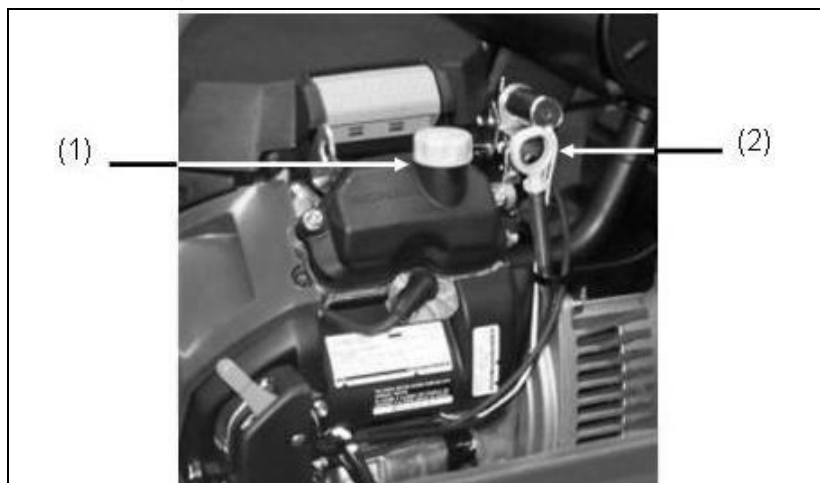

Fig. 5-2: Oil dipstick
1. Pull out the dipstick (Fig. 5-2-(2)) and wipe it off with a clean cloth.
1. Remove oil screw plug (*Fig. 5-2-(1)*). Pull out the dipstick for easier filling (*Fig. 5-2-(2)*).